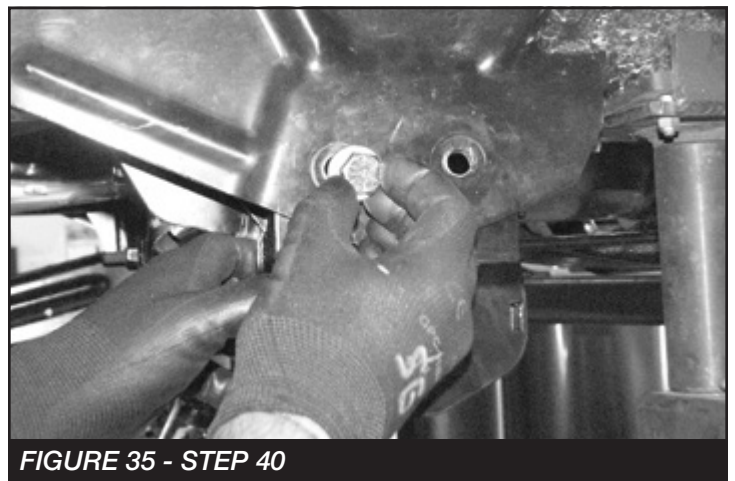

FIGURE 35 - STEP 40
40. Locate four 1/2"-13 x 1-1/4" bolts, nuts and washers. Use these bolts to mount the radius arm drop bracket to the factory bracket. Leave loose at this time. **SEE FIGURE 35**